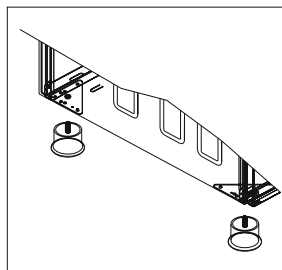
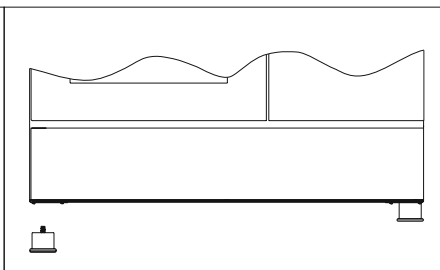

Figure 1
Figure 2
1. Foot attachment lath is installed on the oven from the bottom of the oven as shown in (Figure 1). Nuts are centered on these lathes in order to screw feet (Figure 2). Complete the feet installation process by screwing the feet to the nuts (Figure 3).